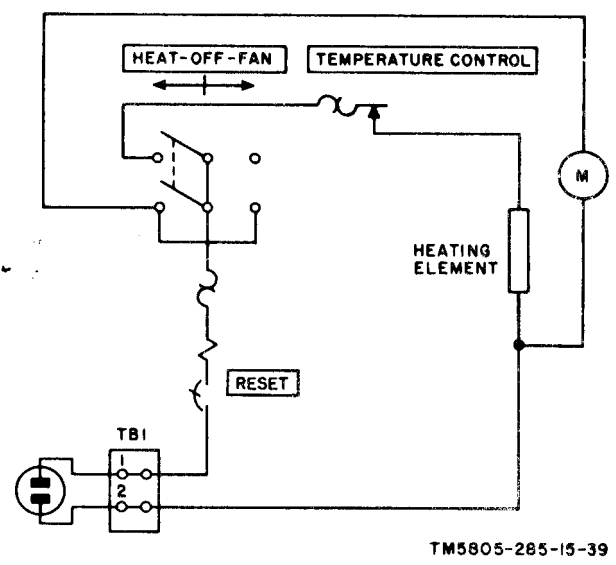

Figure 32. Electric heater, schematic diagram.
- (1) Loosen the screws and remove the the power cord leads from terminal board TB1 (fig. 32).